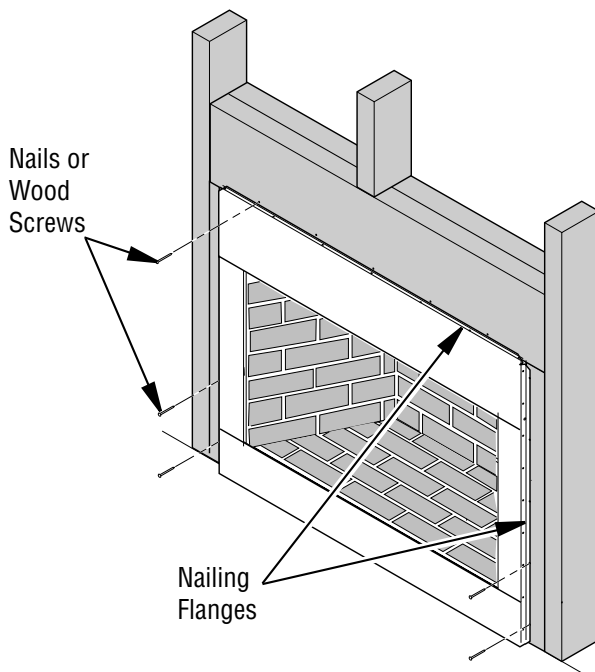

Figure 10 - Attaching Firebox to Wall Studs
5. Attach firebox to wall studs using nails or wood screws through holes in nailing flange (see **Figure 10, Page 11**).